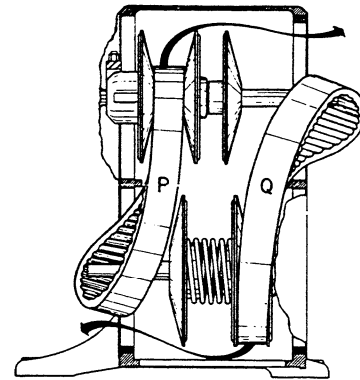

FIGURE 13
4. Remove tie bolts (EE) and VARIDISC (F).
5. Loosen clamping bolts (E) on VARIDISC (F) and remove from shaft. The split hub may be wedged apart if VARIDISC is tight on shaft.
6. Remove tie bolts (N) from VARIDISC (J) and loosen clamp bolts (O). Remove VARIDISC (J) together with shims, shim plate and spacer tubes.
7. Draw loop of VARIBELT (P) over end of variable shaft and VARIBELT (Q) over end of motor shaft. Refer to Figure 13.
8. Replacement of belts will be facilitated by wedging VARIDISCS (L & M) apart with a block of wood or other non-metallic material before removing VARIBELT (Q).
10. With support brackets (B & D) and VARIDISCS (F & J) removed as described above, insert VARIBELT (P) through opening in case and place between VARIDISCS (H & I) only.
11. Likewise insert VARIBELT (Q) through opening in case and place between VARIDISCS (L & M). If these VARIDISCS are not blocked apart it will be necessary either to pry them apart until belt can be inserted or to screw tie bolts (N) into tapped holes in VARIDISC (L) to force VARIDISCS (L & M) apart. These bolts must be removed after VARIBELT is in place to permit replacing VARIDISC (J).
12. Loop VARIBELT (P) over end of variable shaft and VARIBELT (Q) over end of motor shaft. See Figure 13.
13. Replace VARIDISC (J) using tie bolts (N) to bring VARIDISC against spacers. Tighten clamp bolts (O).
14. Replace VARIDISC (F) bringing into contact with spacer rod. Tighten clamping clamp bolts (E) securely.